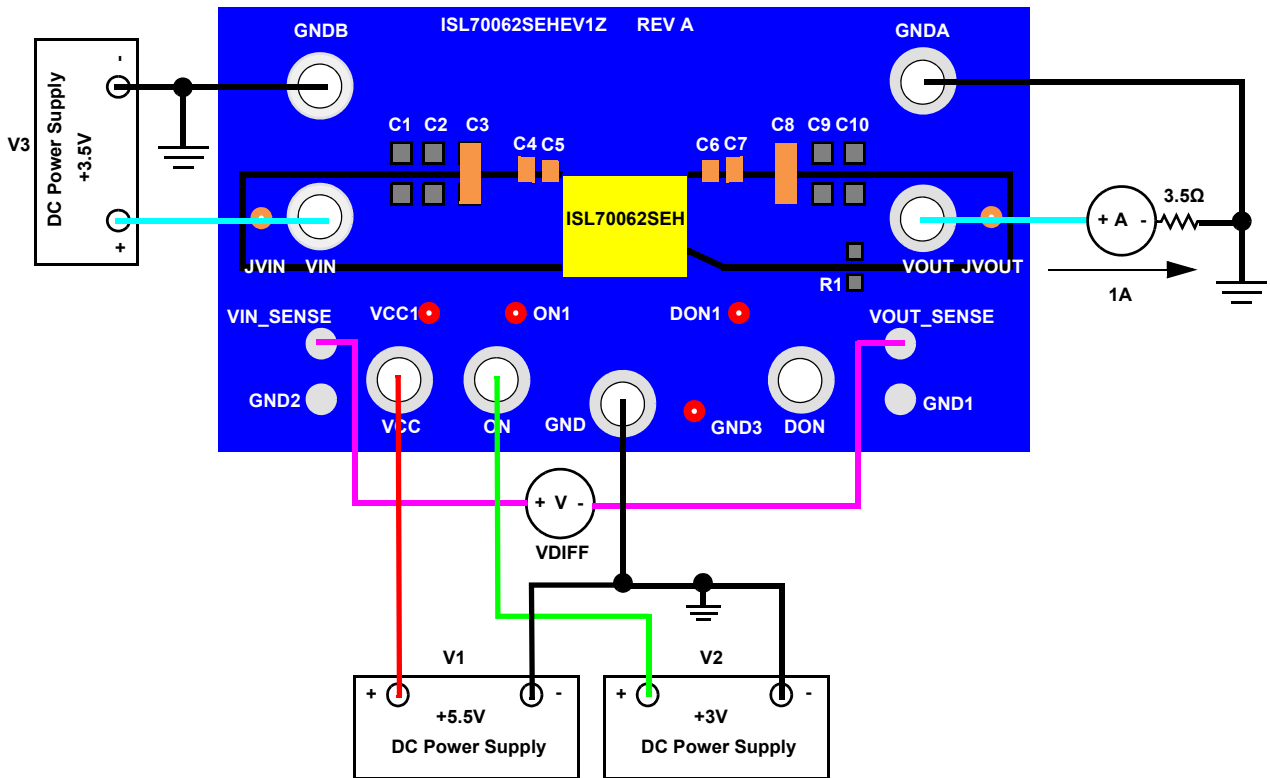

Figure 2. Basic Evaluation Test Setup for Functional Operation Testing
1. Configure the board as shown in Figure 2 on page 7. Start with all supplies (V1, V2, V3) in the disabled state.